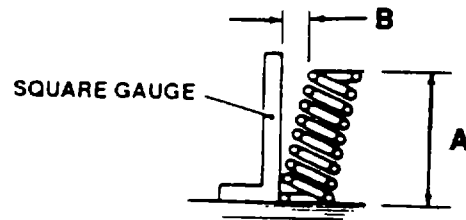

Figure 5-8. Spring Inclination.
- (5) Reinsert valves into the cylinder head and check that each valve recess is less than 0.043 inch (1.1 mm).
- (6) Check that the inside diameter of each valve guide does not exceed 0.2197 inch (5.58 mm).
- (7) Clean off carbon deposits on the valve seats since carbon buildup, excessive wear, and corrosion can cause compression leaks.
- (8) Replace cylinder head if any of the following conditions exist: If cylinder block contact surface is roughened or not level; if the valve seats are worn; if the valve rocker arm cover contact surface is rough or damaged; or if there are cracks between the valve seats.
- (9) Check the valve spring for flaw or corrosion.
- (10) Refer to Figure 5-8. Check that the valve spring free length (dimension A) is more than 1.043 inches (26.5 mm).
- (11) Check that the spring inclination (how far spring inclines to the left or right, dimension B) is less than 0.030 inch (0.75 mm).
- (12) Check that the OD of the valve rocker arm support shaft is more than 0.4685 inch (11.90 mm).
- (13) Check that the ID of the valve rocker arm does not exceed 0.4764 inch (12.1 mm).
- (14) Check for bending of the push rods.
- (15) Inspect and clean thoroughly the gasket and O-ring areas of cylinder head and crankcase.